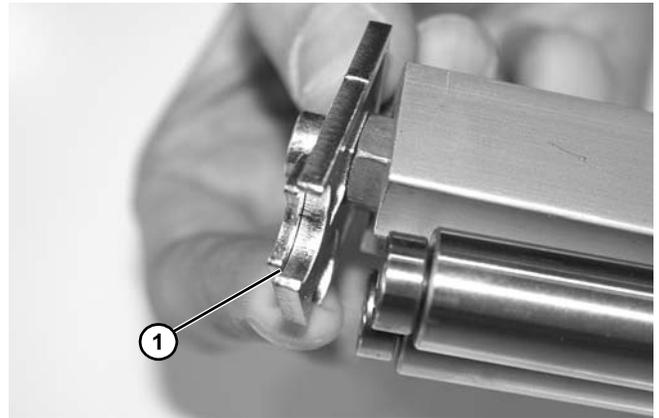

Figure 111
6. Remove outer and inner end plate (Figure 111, item 1).